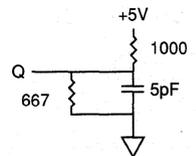

Fig. 2 OUTPUT LOAD EQUIVALENT
6. tHZCS, tHZOE, and tHZWE are specified with CL = 5pF as in Fig. 2. Transition is measured ±500mV from steady state voltage.